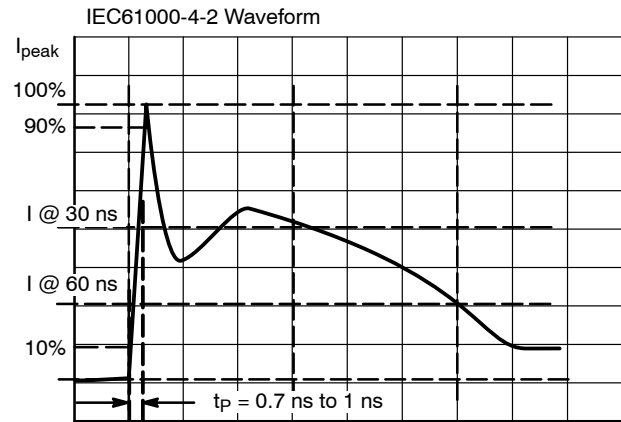

Figure 3. IEC61000-4-2 Spec
5. For test procedure see Figures 3 and 4 and Application Note AND8307/D.